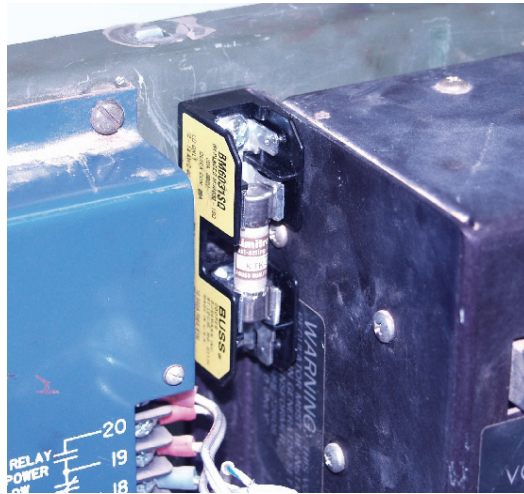

Figure 2 Fuse Holder Orientation
4. Install the fuse holder vertically using the new screw and lock washer, into the hole. Orient the fuse holder so the yellow label can be seen from the side. (Figure 2)